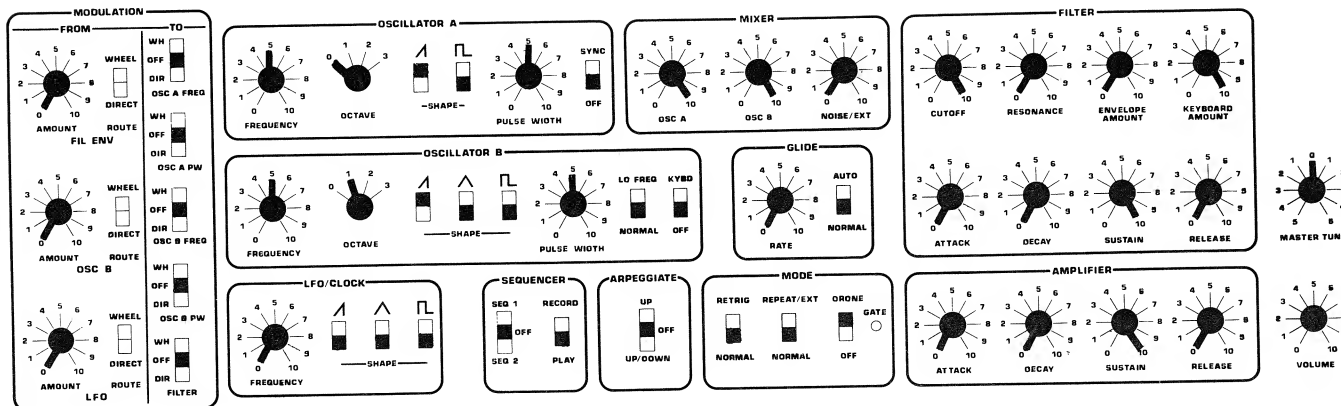
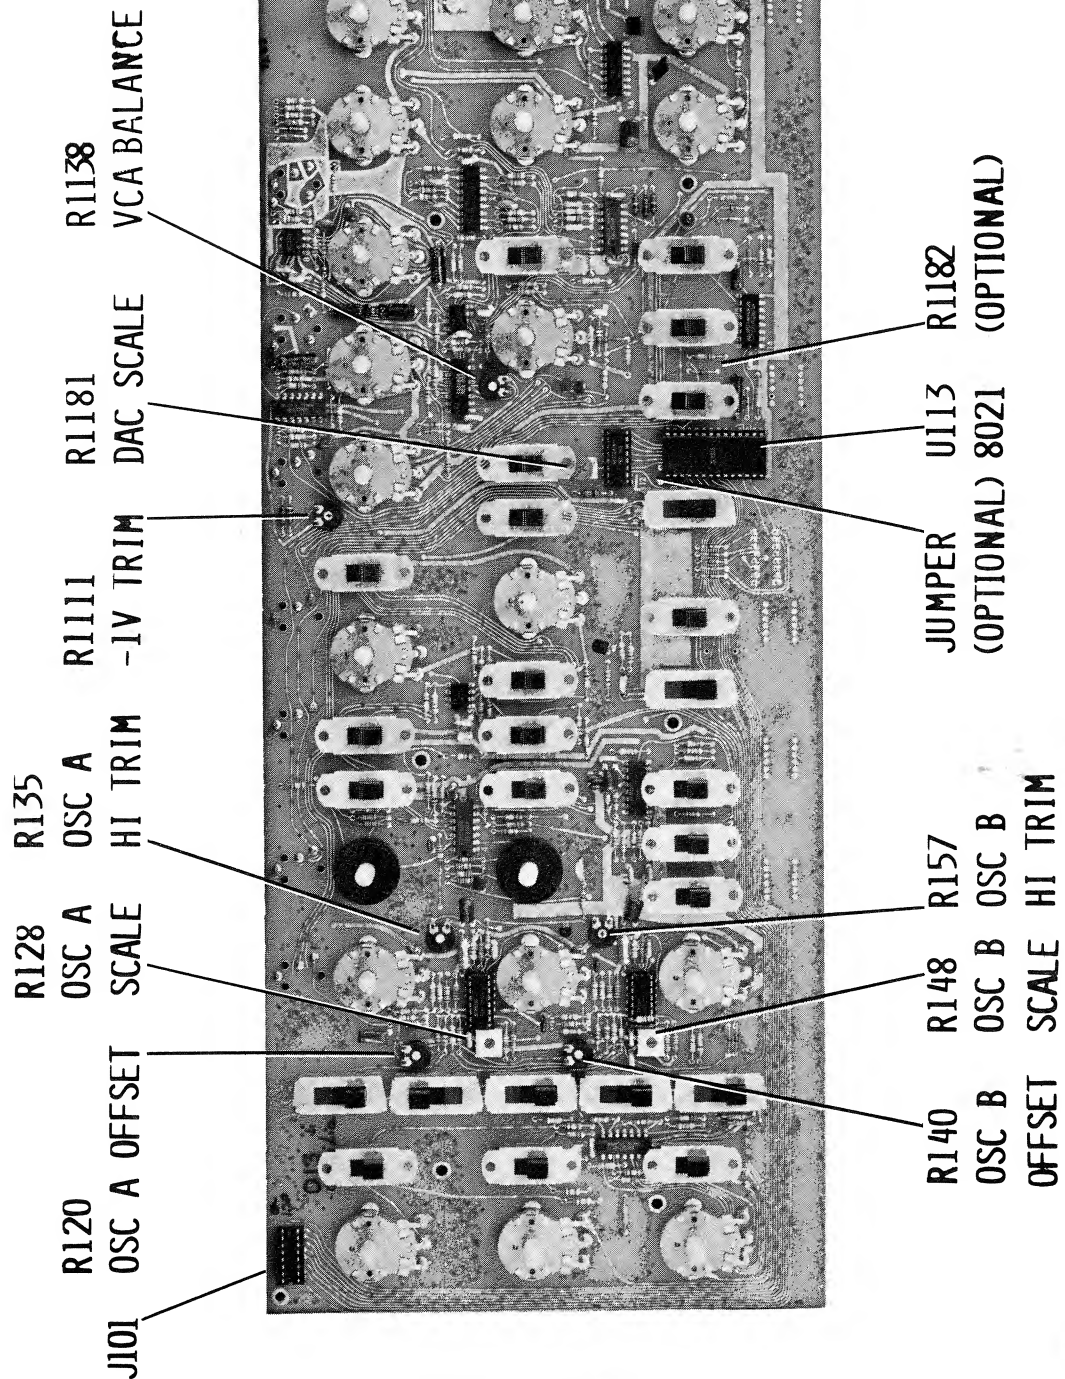

Figure 5-0
Figure 5-1
- Patch according to Figure 5-0. For component locations, see Figure 5-1.
- Hit C3 and adjust OSC A FREQUENCY for zero-beat. If this required increasing OSC B FREQUENCY, turn R128 OSC A SCALE trimmer clockwise (CW) a small amount. If OSC B FREQUENCY needed decreasing, turn OSC B SCALE trimmer counter-clockwise (CCW) a small amount.
Use of the digital interface for external computer control requires both some simple hardware modifications to the Pro-One and the creation of software for your system. If you doubt your technical ability to install the interface, please see an SCI Authorized Service Center or contact our Service Department. However please note that we must leave all questions of programming your system to you. For parts locations, see Figure 5-1.
3. Add R1182, 10K-ohm, 1/4W, 5% resistor where shown on Figure 5-1.